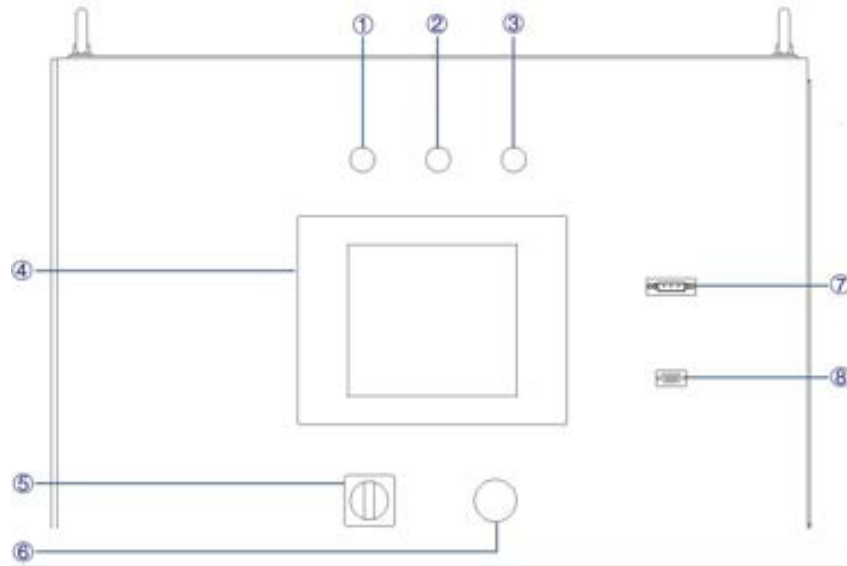

Figure 1-2 Front panel
The touch screen is a resistance screen (Figure 1-2④), which works through pressure sensing and it has good response sensitivity. Support touch input of any object (such as stylus or fingernail).